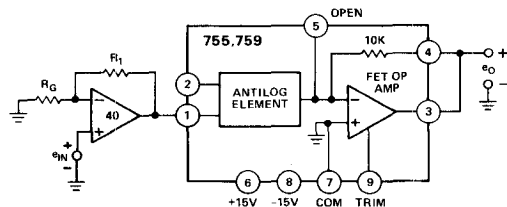

Figure 6. Method for Adjusting $K < 2/3V$
Scale Factor (K) Adjustment — The scale factor may be adjusted for all values of K greater than 2/3V by the techniques described in the log section. If a value of K less than 2/3V is desired for a given application, an external op amp would be required as shown in Figure 6. The ratio of the two resistors is approximately: